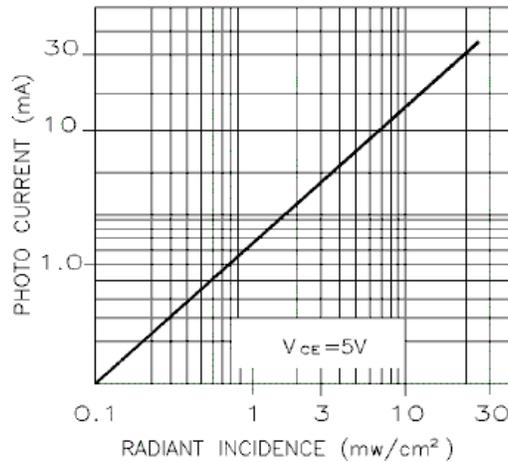

Figure C-1.
**Phototransistors:** A phototransistor is similar to a photodiode except that it takes advantage of the ability of the transistor to amplify current in the active region. The current it generates is still proportional to the amount of incident light, but it is amplified by the properties of the transistor. The graph in Figure C-1 shows the linear relationship between incident light and current through a phototransistor similar to the one we will be using. In effect, the light plays the same role as the base current  $I_b$  in a standard transistor. Recall that the collector current  $I_c$  is the order of 100 times the base current (the amplification).